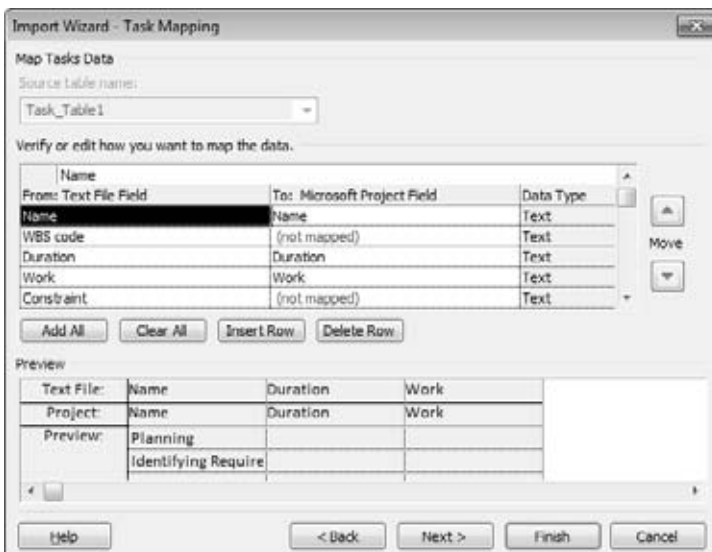

Figure 20-6:
7. On the mapping page, map the import fields to their corresponding Project fields, as shown in Figure 20-6.